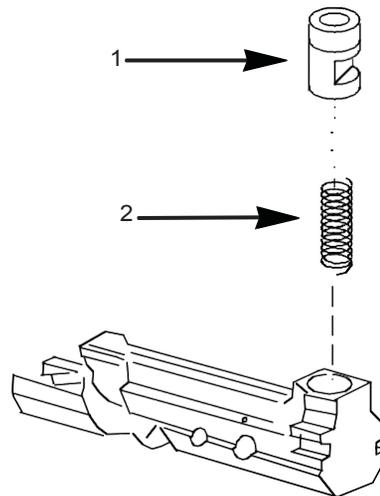

Figure 3. Feed Roller Assembly and Spring.
7. Remove feed roller assembly (Figure 3, Item 1) and spring (Figure 3, Item 2). Discard spring.